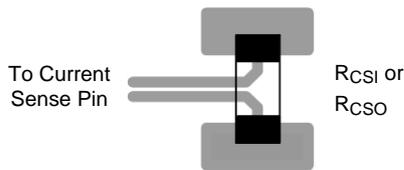

Figure 5. Kelvin connections for  $R_{CSI}$  or  $R_{CSO}$
- ▶ Connect the capacitor close to CSIP/CSIN and CSOP/CSON pins. The paths of current sense pin (CSIN/PCIP, PCIN, CSIP, CSON/PCOP, PCON, CSOP) must be directly connected to the terminals of current sense resistors ( $R_{CSI}/R_{CSO}$ ) using Kelvin connections as shown in the layout in Figure 5.